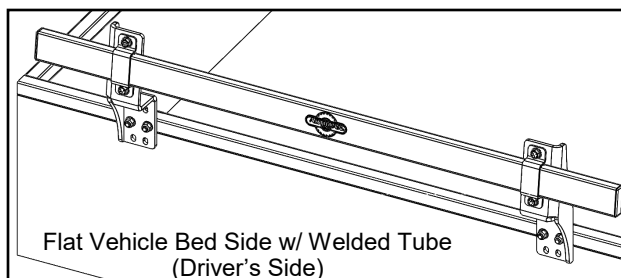

Fig. 9
10. With a screwdriver, or an awl, poke holes thru the foam covering the center holes. Use center holes in mounting brackets as a template to drill 11/32" holes through the tube in the bed. Tighten fasteners. See Fig. 9